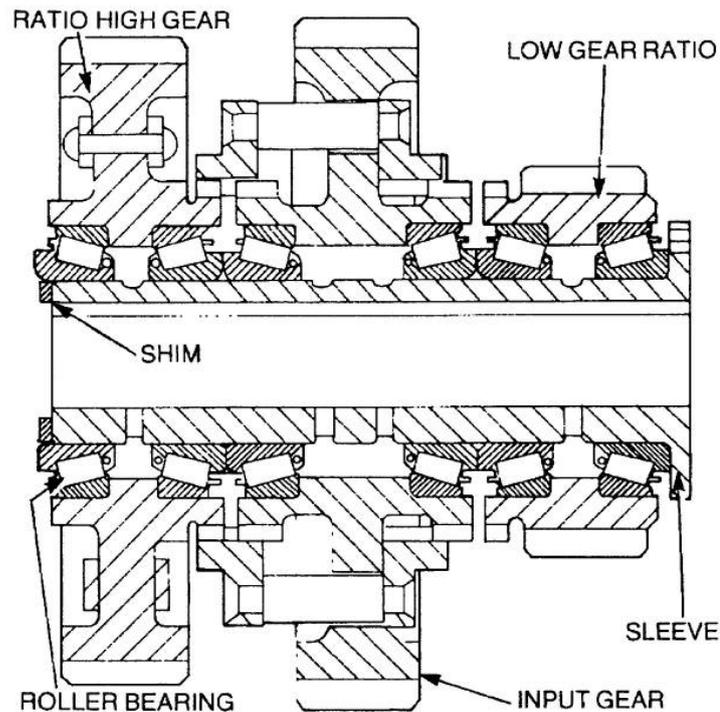

Figure 203 Intermediate Gears - Sectional View
- i. Remove the shim installed on the end of the hollow sleeve and remove each gear complete with the bearing cups and cones. Using a suitable press, replace the bearings if required (Figure 203).